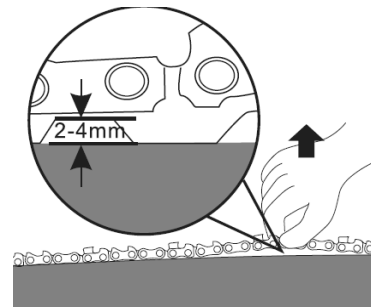

Figure 7
3. The correct chain tension is reached when the Saw Chain can be lifted by 2-4 mm from the center of the chain bar. Use one hand to lift the chain against the weight of the machine. See Figure 7, left.